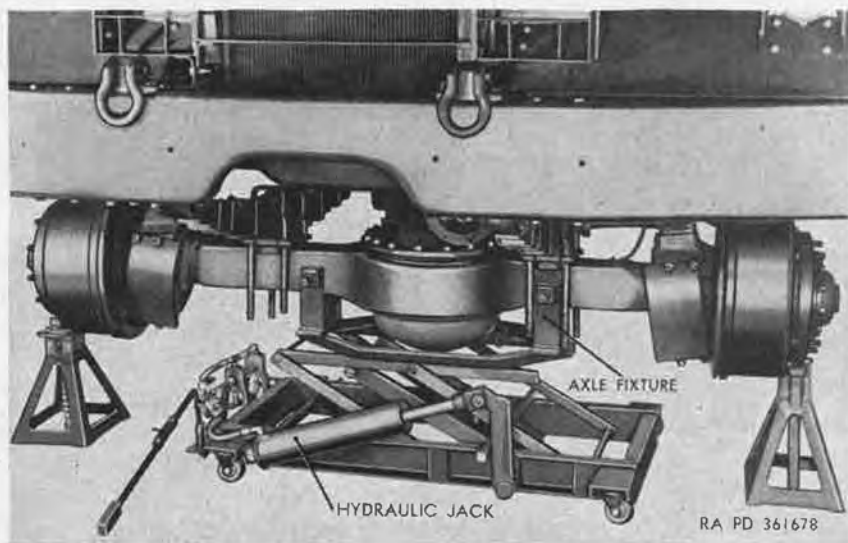

Figure 225. Hydraulic jack positioned for front axle removal.
- (7) *Position hydraulic jack.* Position hydraulic jack (fig. 99) with axle fixture under the front axle (fig. 225), raise jack sufficiently to release support stands under the wheel hubs, and remove the stands.
Warning: Weight of vehicle must remain supported by overhead hoisting equipment, floor jacks, or support stands at all times. Do not attempt to support weight of truck on hydraulic jack (fig. 225).